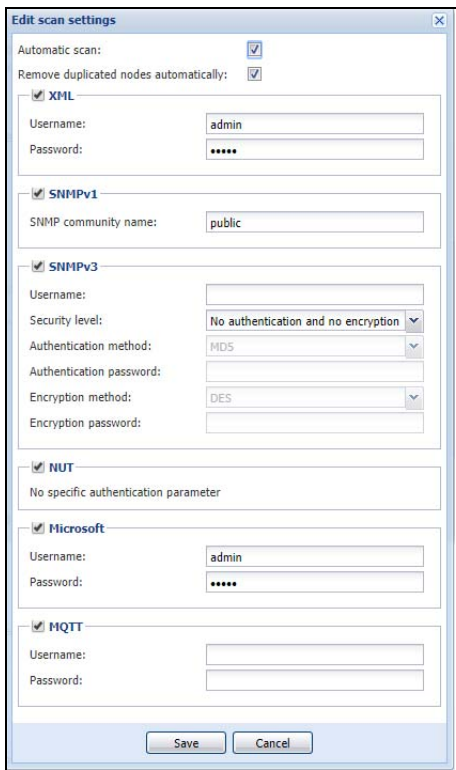

Figure 17. Edit Scan Settings Dialog Box
2. Click the Edit scan settings button on the right-side page. The Edit scan settings dialog box displays (see Figure 17).